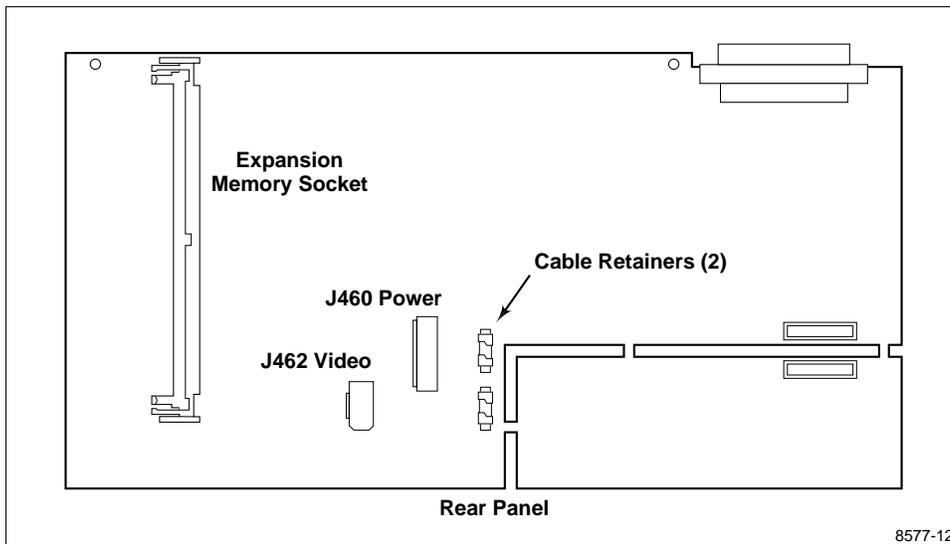
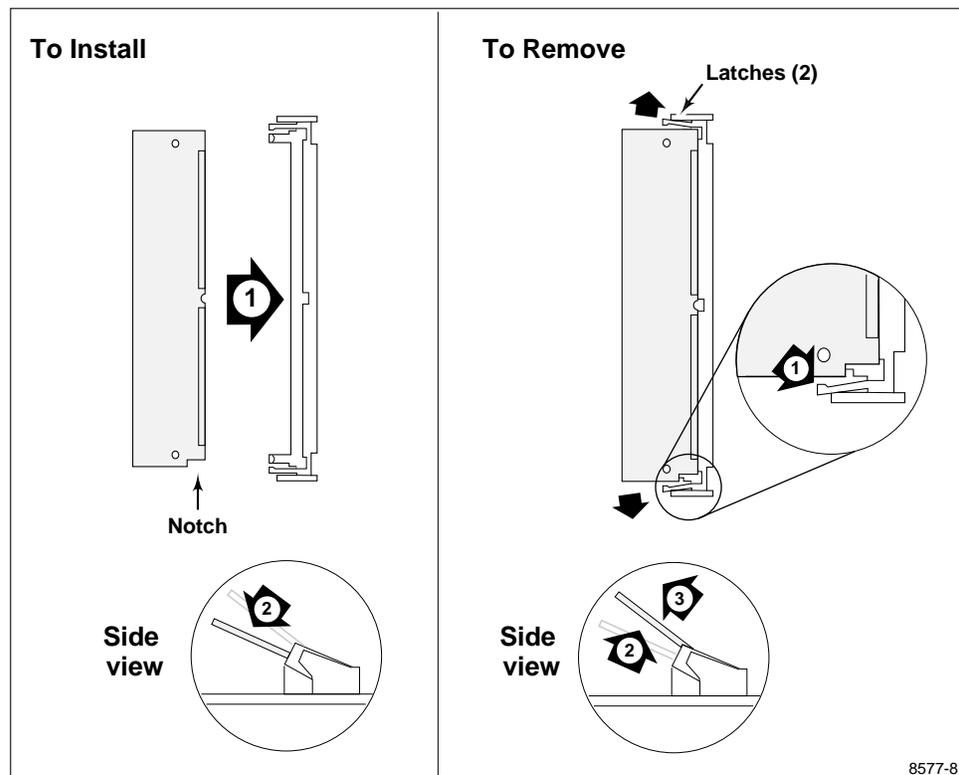

Figure 7. Connector and Cable Retainer Locations
Figure 8. Installing or Removing the Memory Board
5. Release the power and video cables from the cable retainers (shown for the XP10 logic board assembly in Figure 7 — the XP10T and XP100 logic board assemblies are similar) and unplug the cables from the Main Logic board (squeeze the retaining-latch tab, then pull the connector off the pins).
7. Locate the expansion memory socket (shown for the XP10 logic board in Figure 7 — similarly located on the XP10T and XP100 Main Logic boards) and install the new memory board as shown in Figure 8 (if a memory board is currently installed in the socket, remove it first).